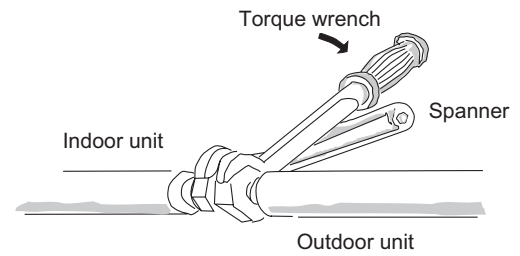

Fig. 2-247
- (1) Tightly connect the indoor-side refrigerant tubing extended from the wall with the outdoor-side tubing.
- (2) To fasten the flare nuts, apply specified torque as at right:
- When removing the flare nuts from the tubing connections, or when tightening them after connecting the tubing, be sure to use 2 adjustable wrenches or spanners as shown. (Fig. 2-247)